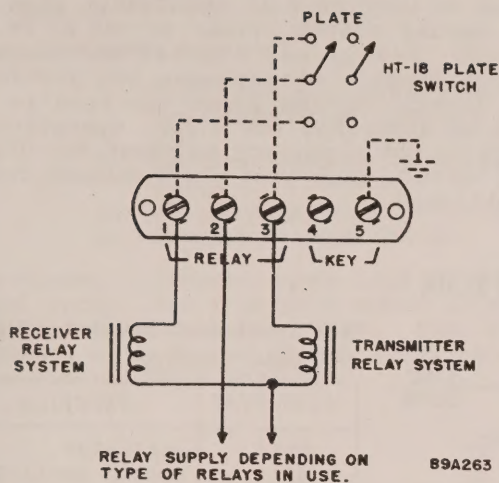

Figure 2. External Relay Connections
1. RELAY and KEY TERMINAL STRIP - For c-w operation, connect a key across terminals 4 and 5 as indicated; for strictly phone operation connect a jumper between terminals 4 and 5. If the transmitter and receiver are relay controlled refer to Fig. 2. for suggestions as to the use of terminals 1, 2, and 3 of this terminal strip. Other uses may be made of the section of the PLATE switch reserved for external switching if relays are not used in the installation.